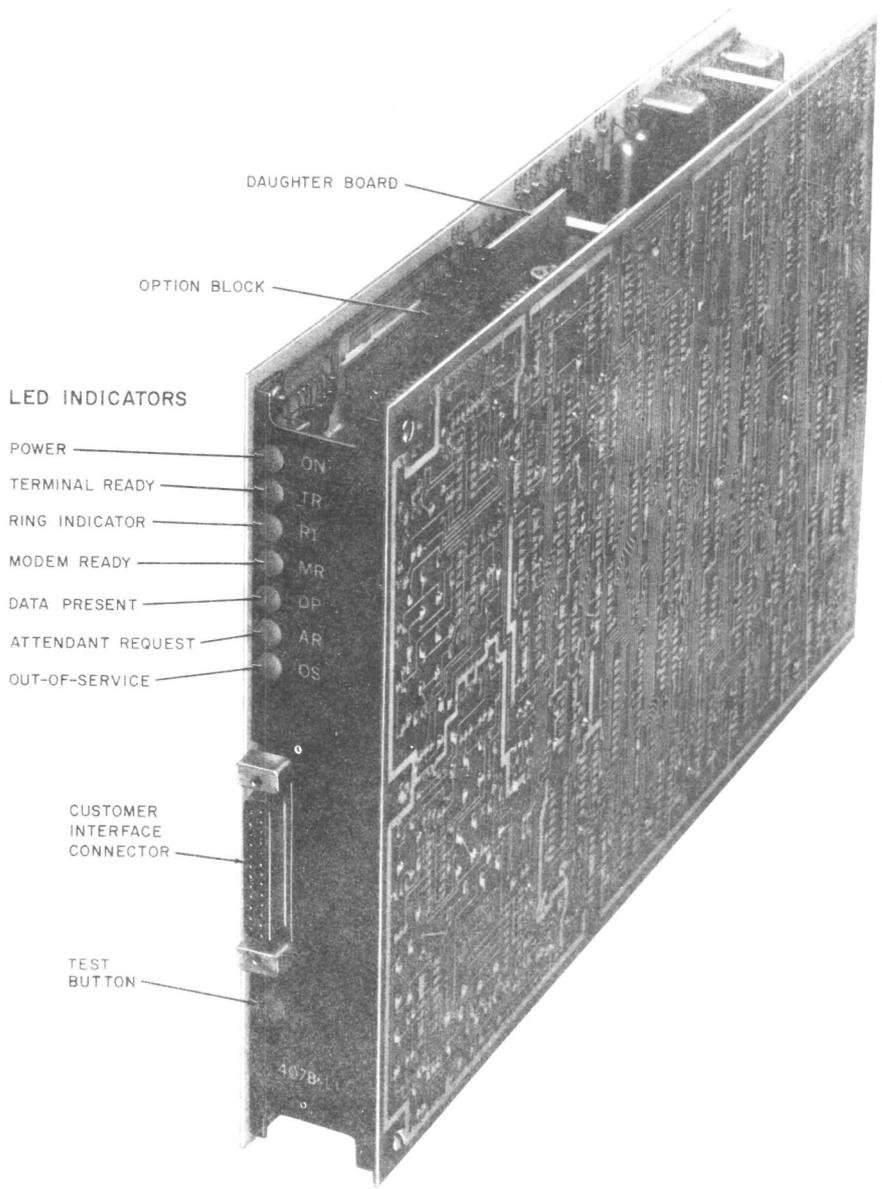

Fig. 3—Data Set 407B
2.04 Data set 407B (Fig. 3) consists of two CPs (JU2 and JU3) similar to DS 407A-L1A, with a daughter board CM1 (circuit module) as part of JU3. Dimensionally, the DS 407B is the same as DS 407A, and the set weighs 3 pounds. The power source requirements are the same as DS 407A. A 25-pin interface connector is located on the front of the set.